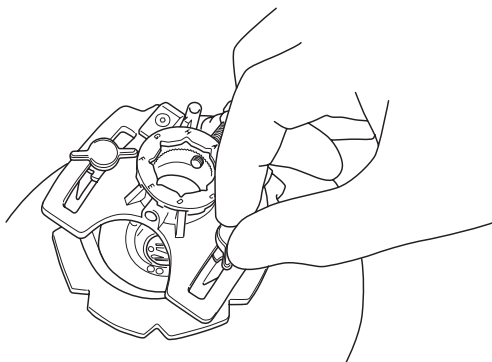

Figure 12. Tighten the two tower thumbscrews.
10. Loosely thread each tower thumbscrew into each retaining block (Figure 12).